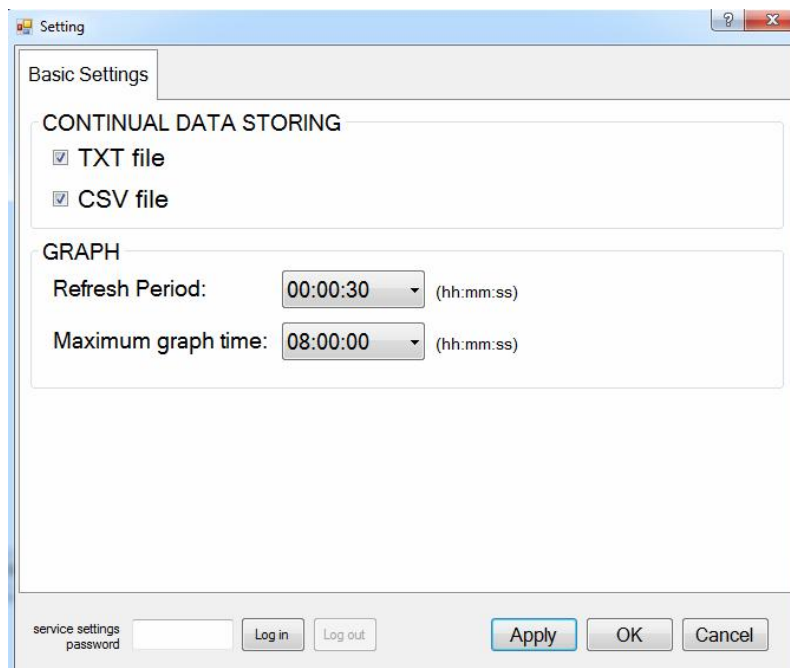

Figure 25 Setting window: setting a format of data to be saved and graph display parameters.
**Setting** tab contains setup for data storing and displaying. *Setting* window (Figure 25), containing basic settings (*Basic Settings*), appears after touching an eponymous button. To save parameters touch *Apply* button. To save parameters and to close the *Setting* window at the same time touch *OK*.